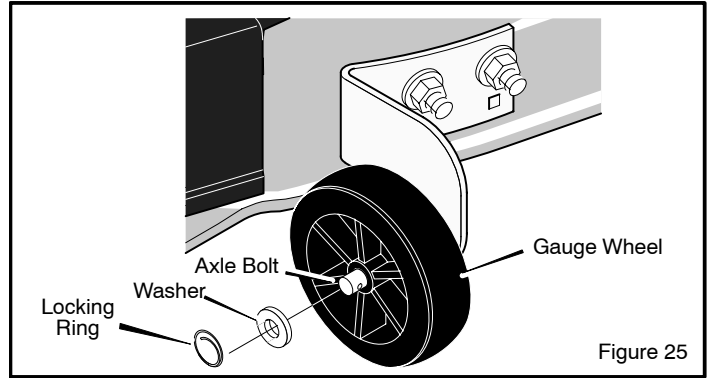

Figure 25
1. Remove the **gauge wheels** (Figure 25).